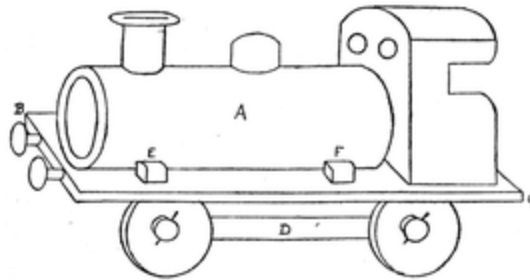
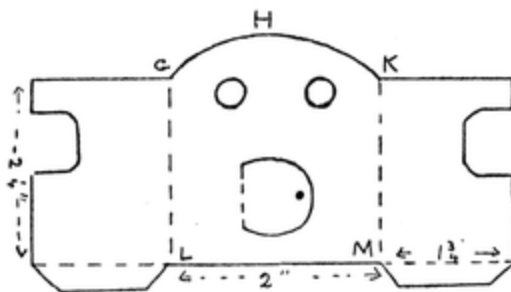

FIG. 230
FIG. 231
A Train. (1) *The Engine* (Fig. 230). The body of the engine, A, is a long mantle-box or a piece of old curtain pole, about $4\frac{1}{2}$ inches long. The wooden bottom, B C, is $6\frac{1}{2}$ inches by $2\frac{1}{4}$ inches. A is glued to B C and kept in position by wooden blocks, E and F. The funnel and the dome are made from corks or pieces of round wood; their ends must be slightly concave, so that they may fit securely to A. A ring of cardboard is gummed to the top of the funnel, which may have a hole in it to take a piece of cotton-wool for smoke. The rim of the funnel and the dome are coloured yellow. The boiler
The cab is made of cardboard, as shown in Fig. 231, and is coloured to match the engine. G K L M is gummed to the back of A (Fig. 230), and its sides are fastened to the footplate by the flanges.
es in diameter and are fastened underneath B C, as described in Chapter XIII. Strips of cardboard, coloured black (D in Fig. 230), are glued to the wooden blocks behind the wheels.